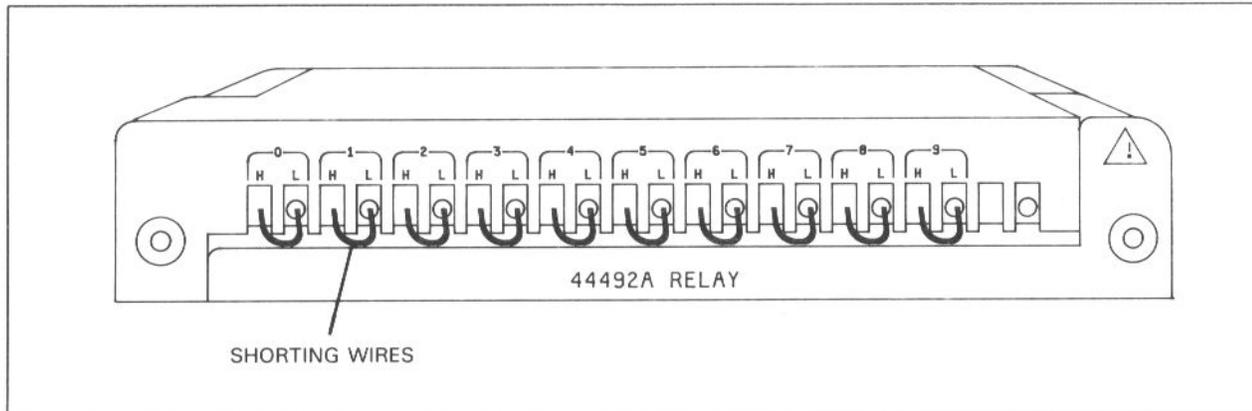

Figure 4-11. HP 44492A Terminal Block Assembly Connections
1. Connect shorting wires to the inputs of the Terminal Block assembly as shown in Figure 4-11.